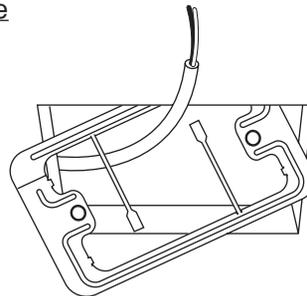

Fig. 7-19
- (1) Remove the cover plate by inserting a standard (minus) screwdriver into the notch in the lower section and prying it off.
- (2) Cut out a section (3-3/4 × 2-1/32 in.) on the ceiling using the paper pattern (supplied) as a guide.
- (3) Run the wire through the mounting carrier and insert into the installation hole as shown in Fig. 7-19.